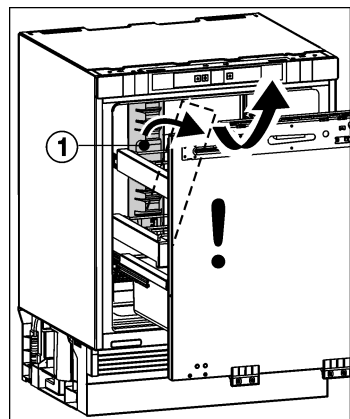

Fig. 3
- ▶ Swing the transport safety device Fig. 3 (1) to the side and remove it from the front.